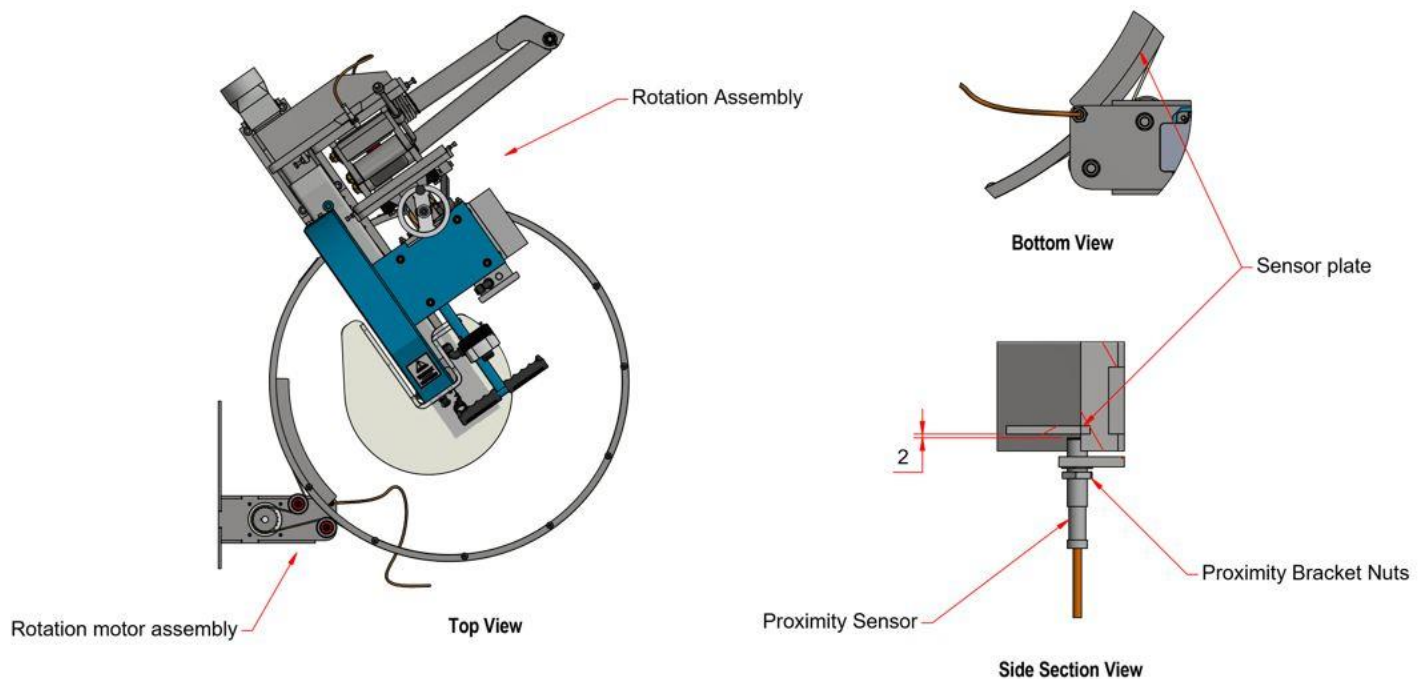

Figure 20, Rotation Ring proximity sensor configuration
- Push the Rotation assembly over until the sensor plate is above the proximity sensor on the rotation motor assembly. See Figure 20.
- Ensure that the edge of the sensor plate is directly above the proximity sensor, as shown in Figure 20; this should be within the home position. The home position for Left-hand saws is any angle above 100°, and the home position for Right-hand saws is any angle less than 80°.